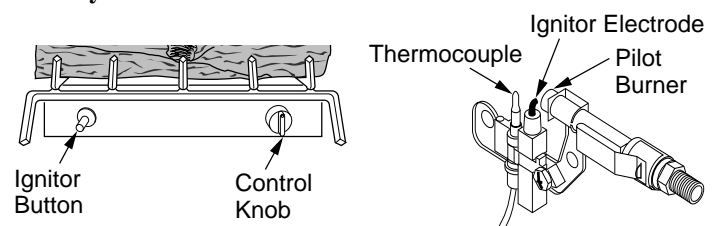

Figure 25 - Control Knob and Ignitor Button Location      Figure 26 - Pilot Ignitor Button Location
4. Wait five (5) minutes to clear out any gas. Then smell for gas, including near the floor. If you smell gas, STOP! Follow "B" in the safety information, column 1. If you don't smell gas, go to the next step.
5. Turn control knob counterclockwise  to the PILOT position. Press in control knob for five (5) seconds (see Figure 25).
**Note:** If pilot goes out, repeat steps 3 through 7. This heater has a safety interlock system. Wait one (1) minute for system to reset before lighting pilot again.